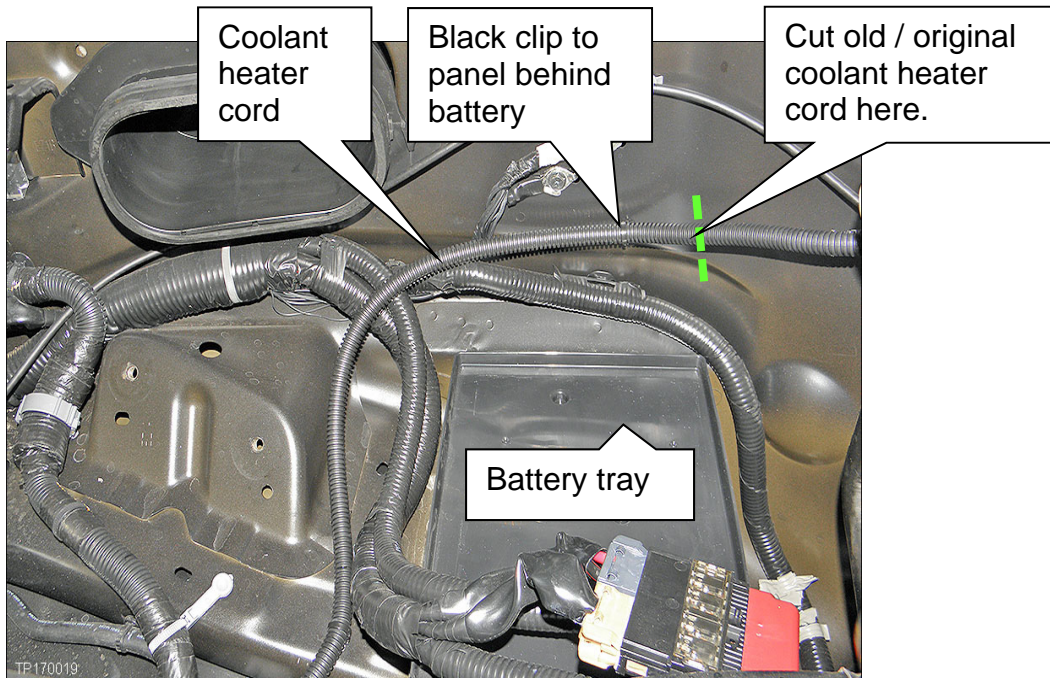

Figure 12
8. Cut through the old/original coolant heater cord (plug end) near its first harness clip, where shown in Figure 12, and discard the removed coolant heater cord/plug.